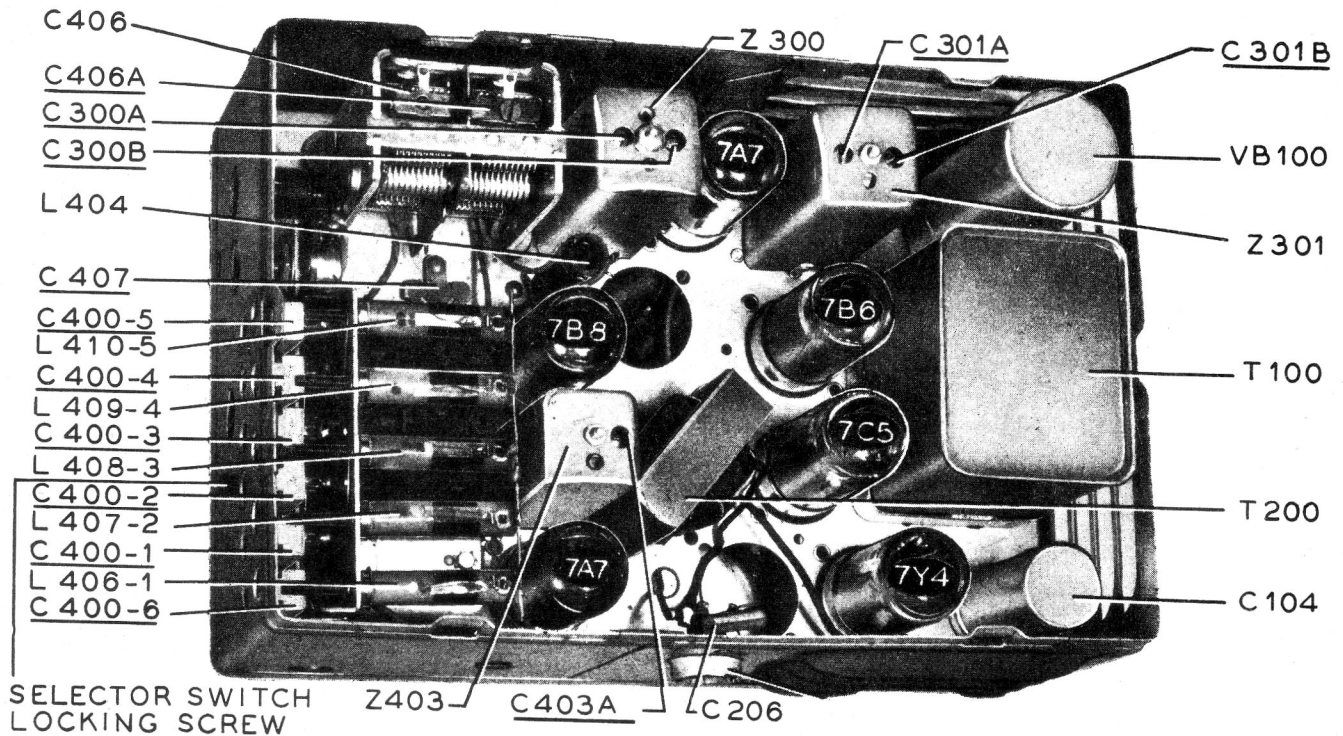

Figure 11. Top view, showing trimmer-condenser locations.
*To set the selector switch in "DIAL" position, unscrew the locking screw (see figure 11, page 6) until it protrudes $\frac{1}{2}$ " from the outside of the case. Then rotate the selector switch until it locks. This will be the "DIAL" position, and the "AUTOMATIC"